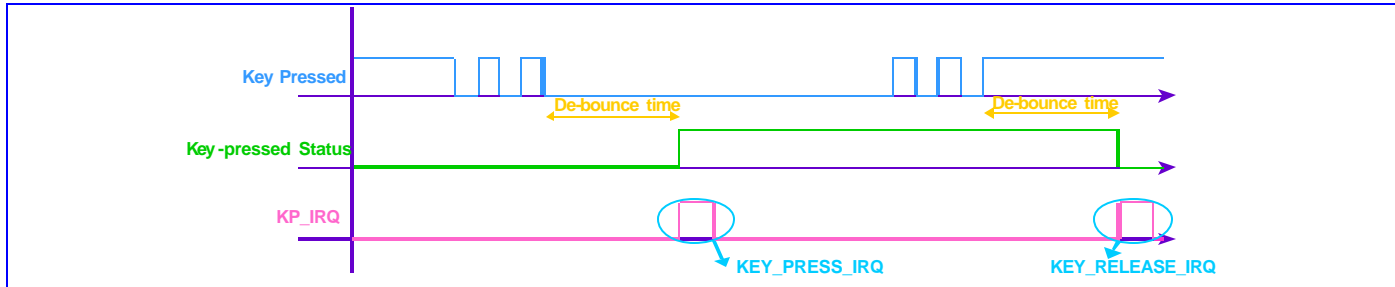
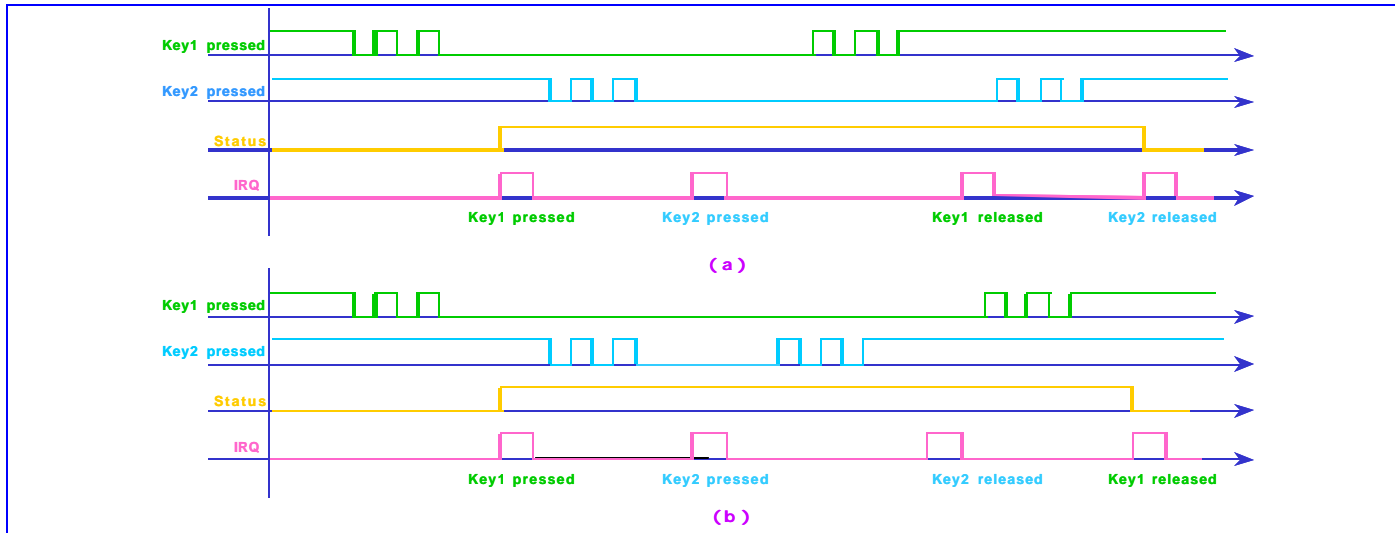
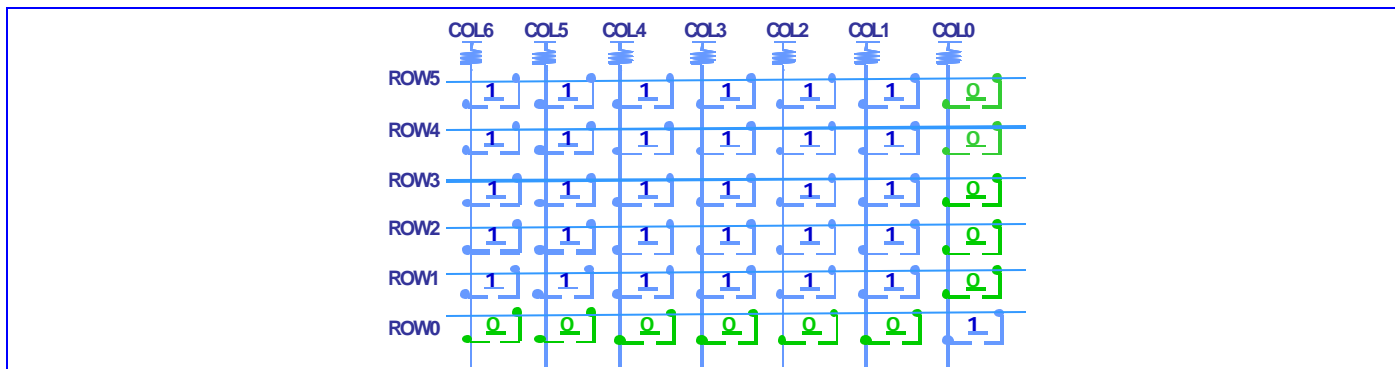

Figure 25 One key pressed with de-bounce mechanism denoted
Figure 26 (a) Two keys pressed, case 1 (b) Two keys pressed, case 2
Figure 27 10 keys are detected at the same time
The keypad can be divided into two parts: one is the keypad interface including 7 columns and 6 rows; the other is the key detection block which provides key pressed, key released and de-bounce mechanism. Each time key pressed or key released, i.e. something different in the 7 x 6 matrix, the key detection block will sense it, and it will start to recognize if it's a key pressed or key released event. Whenever the key status changes and is stable, a KEYPAD IRQ will be issued. The MCU can then read the key(s) pressed directly in KP_HI_KEY, KP_MID_KEY and KP_LOW_KEY registers. To ensure that the key pressed information won't be missed, the status register in keypad won't be read clear by APB bus read command. The status register only changes by the key-pressed detection FSM. This keypad can detect one or two key-pressed simultaneously with any combination. **Figure 25** shows one key pressed condition. **Figure 26(a)** and **Figure 26(b)** indicate two keys pressed cases. Since the key press detection depends on the high or low level of the external keypad interface, if keys are pressed at the same time and these exists one key is on the same column and the same row with the other keys, there will get a redundant key; e.g. there are three keys, key1 = (x1, y1), key2 = (x2, y2), key3 = (x1, y2), key4 = (x2, y1) will be detected, but key4 is a redundant one. Hence, the keypad can detect one or two keys pressed simultaneously at any combination. Due to the keypad interface, more than two keys pressed simultaneously with some specific pattern will get the wrong information. Without the specific pattern, the keypad-scanning block can detect 11 keys at the same time and it's shown as **Figure 27**.